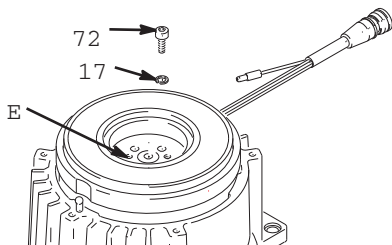

FIG. 12
8. Place pinion assembly on bench with rotor side up (FIG. 12).
1. Install engine shaft key (7).
2. Tap clamp (8) on engine shaft (A) with plastic mallet.
3. Press clamp (8) onto engine shaft (A). Maintain dimension shown note 2 in Fig. 12. Chamfer side must face engine.